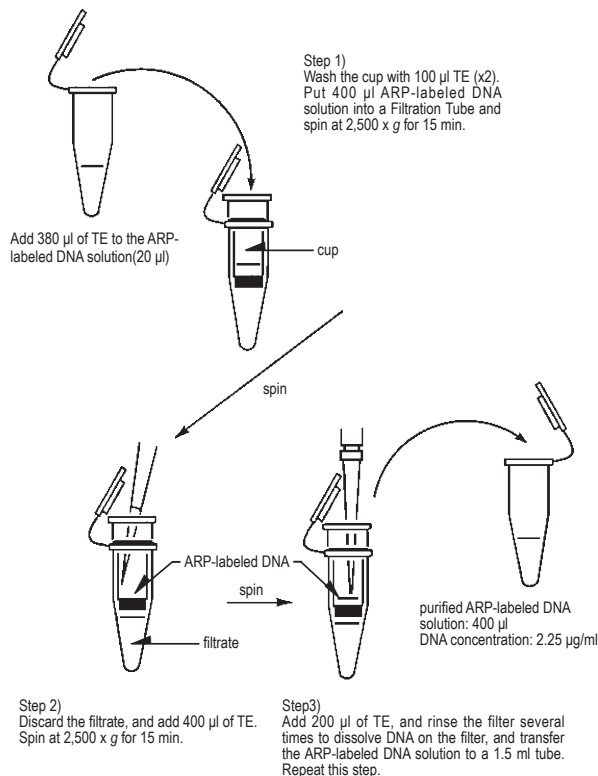

Fig. 3 ARP-labeled genomic DNA purification procedure
- 2) Wash the inside of the Filtration Tube cup with 100 μ l of TE twice (see Fig. 3).
- 3) Add 380 μ l of TE to the reaction solution, and transfer the solution to the Filtration Tube (see Fig. 3).¹⁾